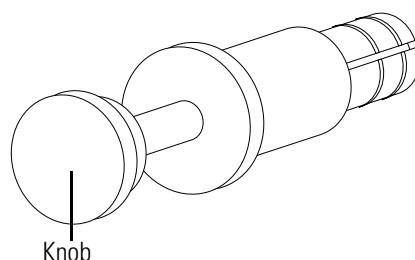

Figure 6-40. Inlet valve seal tool
4. Pull out the knob on the inlet valve seal tool¹, so that the knob is loose. See Figure 6-40.